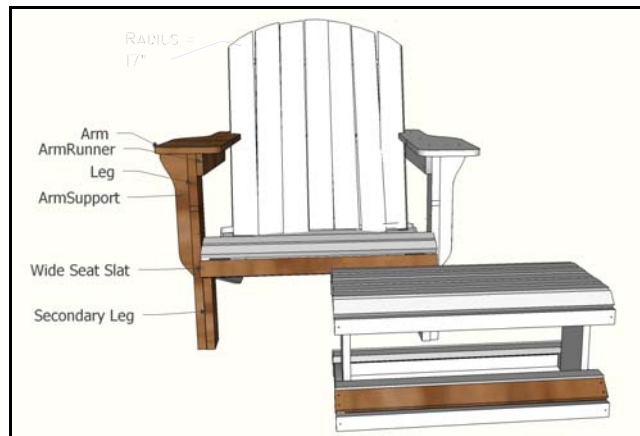

Figure 4. Front View. Wide slat position on Footstool is highlighted
Use a story pole or measure the distances between the insides of the seat frame at the front and middle. They should be the same. Position the wide (2" by 27") seat slat against the front of the seat frame (Figure 4). Its ends should be flush with the sides of the seat frame and its bottom edge should be flat against the workbench, 1/4" lower than the seat frame. (Figure 2). (The end of the seat frame should have a flat spot at the end to mate with the slat.) Attach the slat to the seat frame firmly with glue and four 1-5/8" ss screws.
The outermost seat back slats are intended to clear the inside of the arms by about $\frac{1}{4}$ ". (Figure 4) I recommend spacing the slats all at once and adjusting them for uniform gaps at the top. The final top of the chair back should measure about 26" at its widest point. Check the rear of the backslats for glue runs.
C. Stand the risers up and plumb them with the corner braces to the inside on the top. Screw one of the narrow slats across the center of the top or the upper frame, covering up the corner braces with the slat. Once screwed to the frames, using one screw on each end, screw two additional screws up from the corner brace into the bottom of the center slat. (Figure 4)